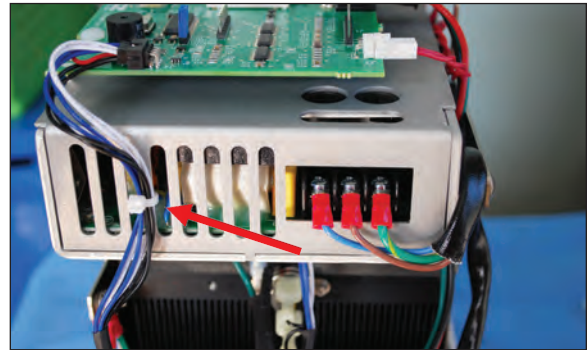

Figure 125 - Step 7 Wire tie the harness to the third slot
7. Wire tie the power supply wiring harness to the third slot on the side of the power supply (Figure 125).